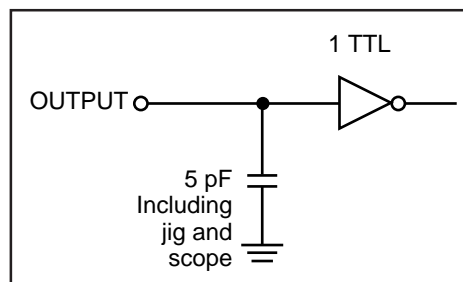

Figure 2
- Tested with the load in Figure 2. Transition is measured ±500 mV from steady-state voltage. Not 100% tested.
- Tested with the load in Figure 2. Transition is measured  $\pm 500$  mV from steady-state voltage. Not 100% tested.